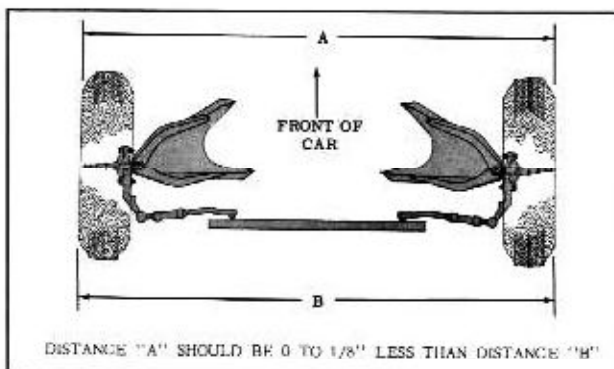

Fig. 5-14 Front Wheel Toe-In
3. TOE-IN (Fig. 5-14)
2. With steering wheel set in straight ahead position, turn tie rod adjusting sleeves to obtain the proper Toe-In adjustment at curb load, $1/16''$. (Fig. 5-14)